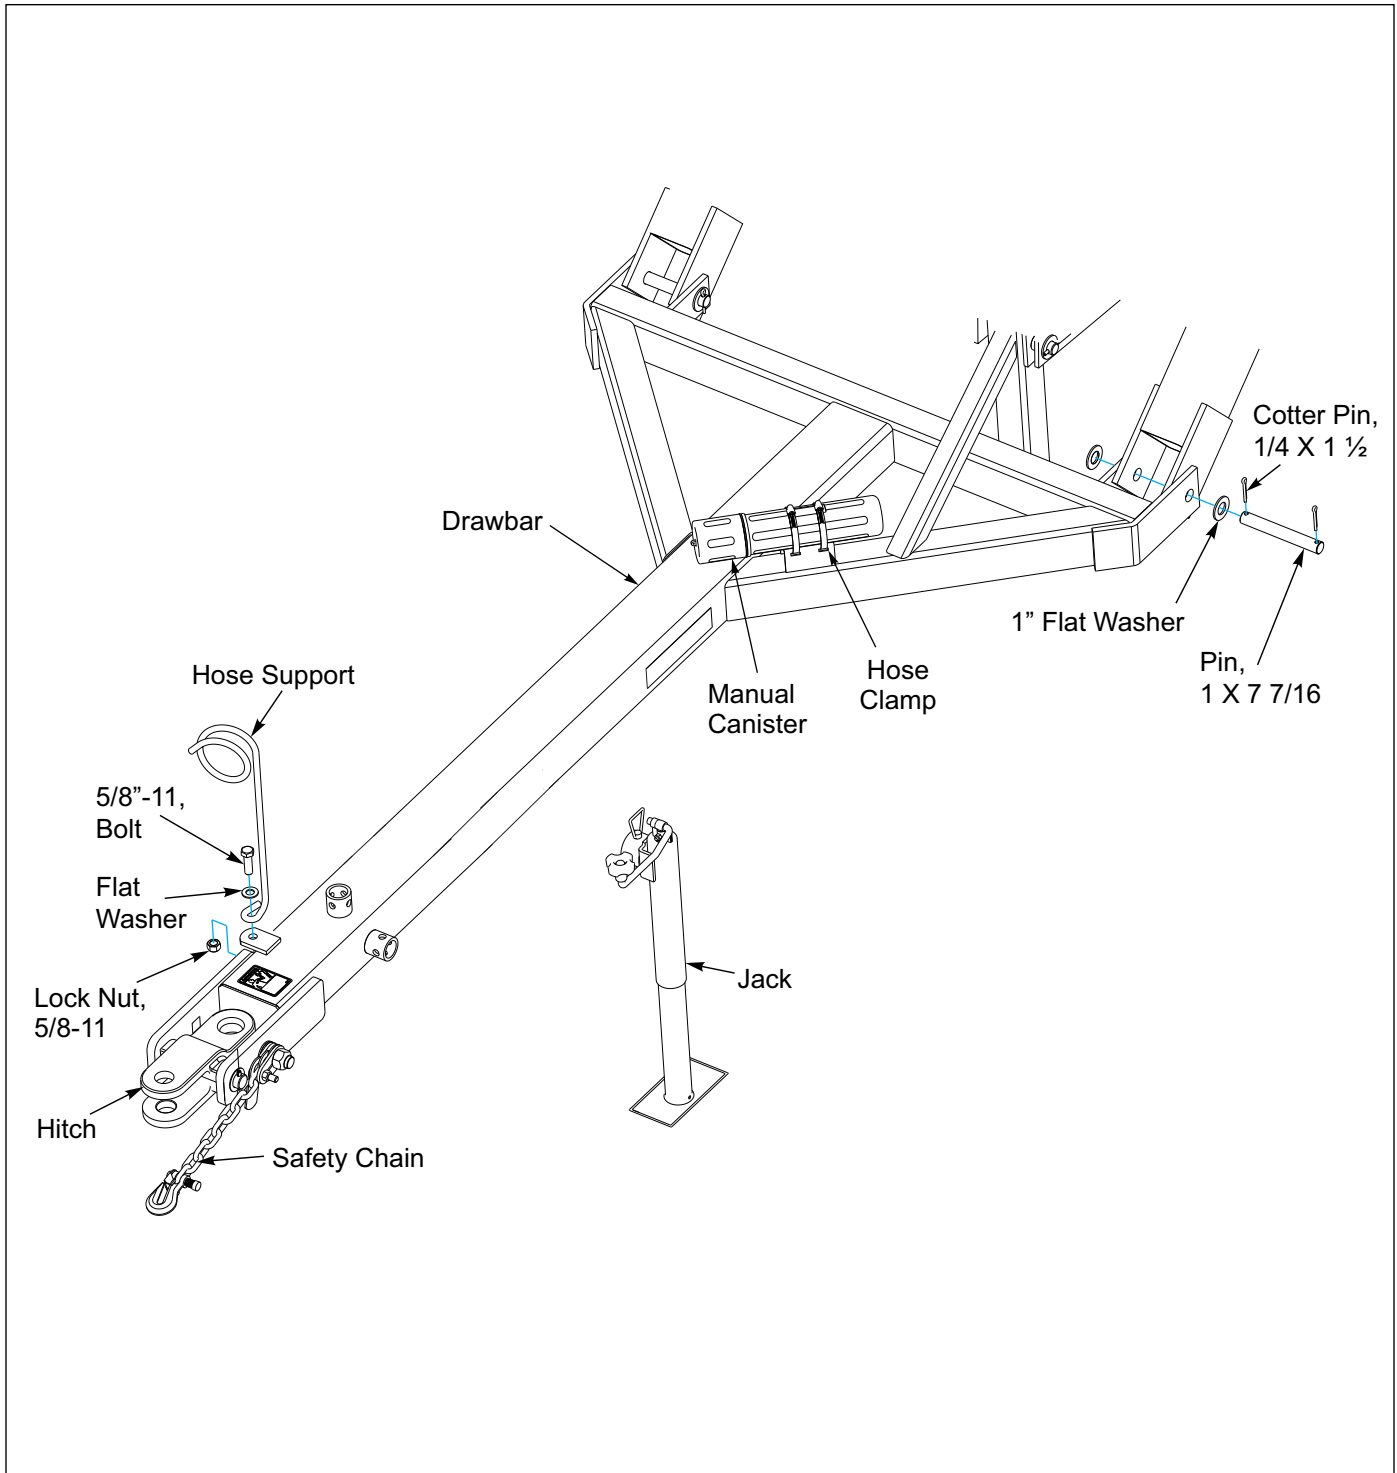

Figure 2-6: Drawbar, Hitch and Safety Chain Installation
1. Attach Drawbar to the Frame using two 1 X 7 7/16 Pins, Flat Washers and 1/4 X 1 1/2 Cotter Pins. **See Figure 2-6.**